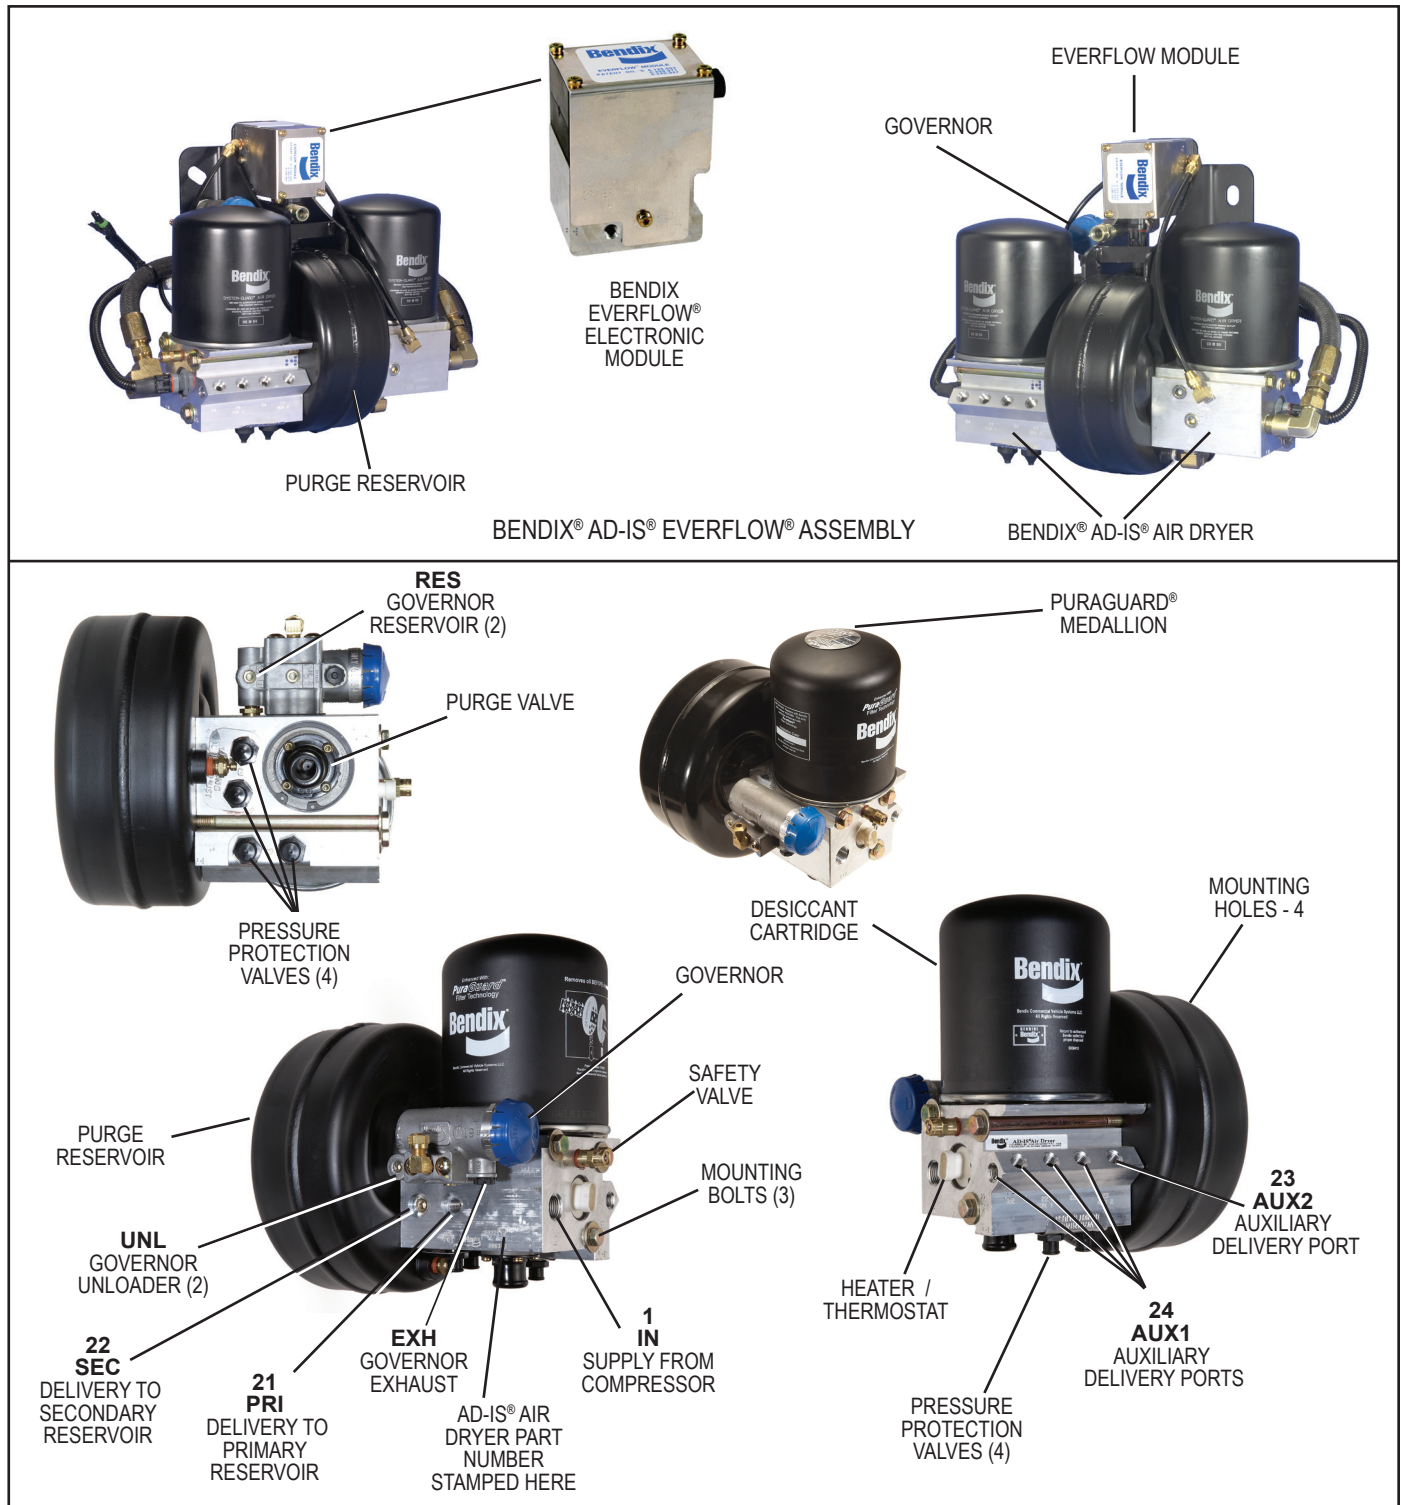

FIGURE 1 - BENDIX® AD-IS® EVERFLOW® ASSEMBLY, AD-IS® AIR DRYER, AND EVERFLOW® ELECTRONIC MODULE
4. *Check the Bendix® AD-IS® EverFlow® assembly and purge reservoir bolts for tightness. See Figure 1. Torque the three air dryer bolts to 360–420 in-lbs and the four purge reservoir bolts to 300–360 in-lbs.*